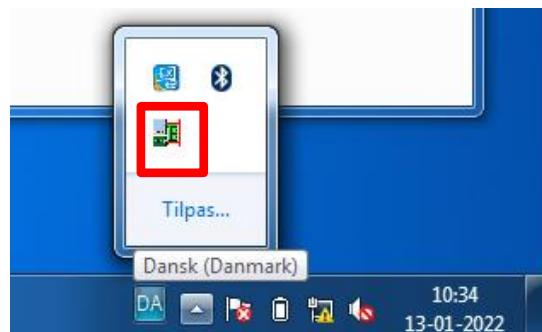

Figure 4 DHCP icon in task manager
| Figure 4 DHCP icon in task manager..... | 8 |
- See Figure 4.
- Server offers IP address: 192.168.1.150-200. (See Figure 4 for example)